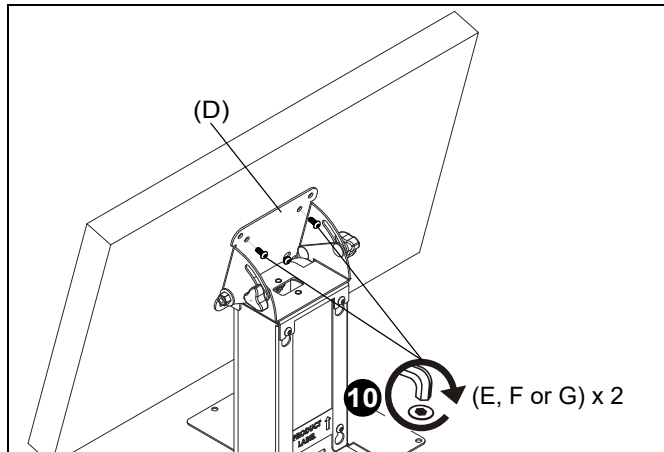

Figure 5
10. Use two selected screws (E, F or G) to secure table to VESA adapter (D). (See Figure 5)